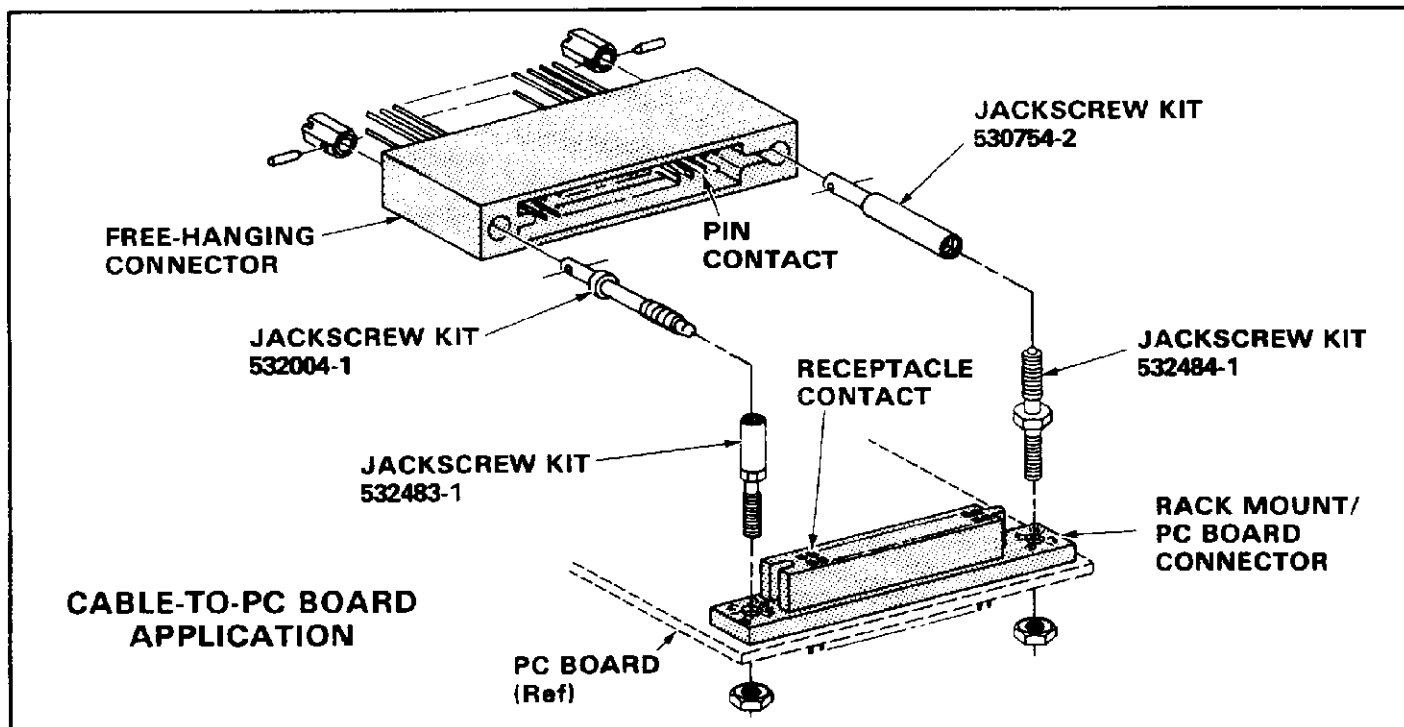

Fig. 4
1. Free-hanging Cable Connector and Inline PC Board Connector (Figure 4)